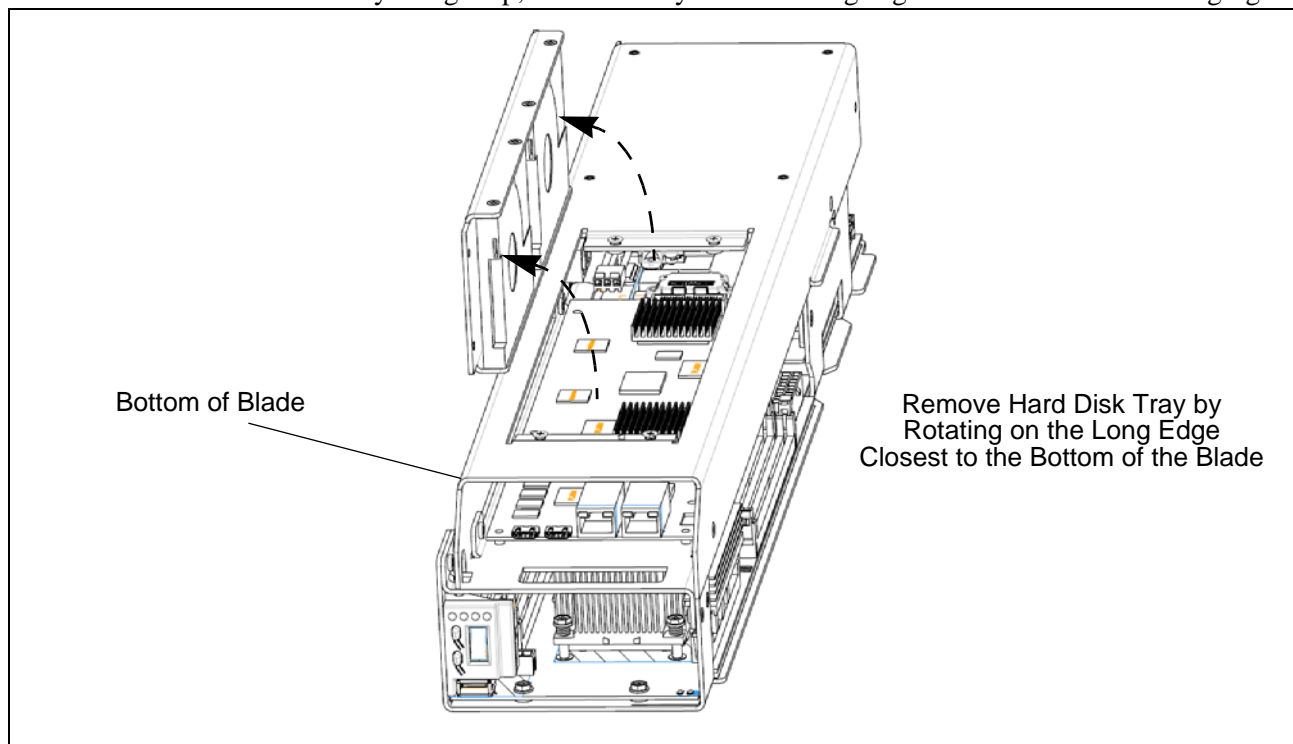

Figure 46 Remove the Hard Disk Tray by Rotating on the Long Edge Closest to Bottom of Blade
4. Use the finger holes in the center of the tray to carefully raise the tray. Do not pull the tray straight up; rotate the tray on its long edge as shown in Figure 46 on page 86. Remove SATA data cables and power cables from the hard disks.